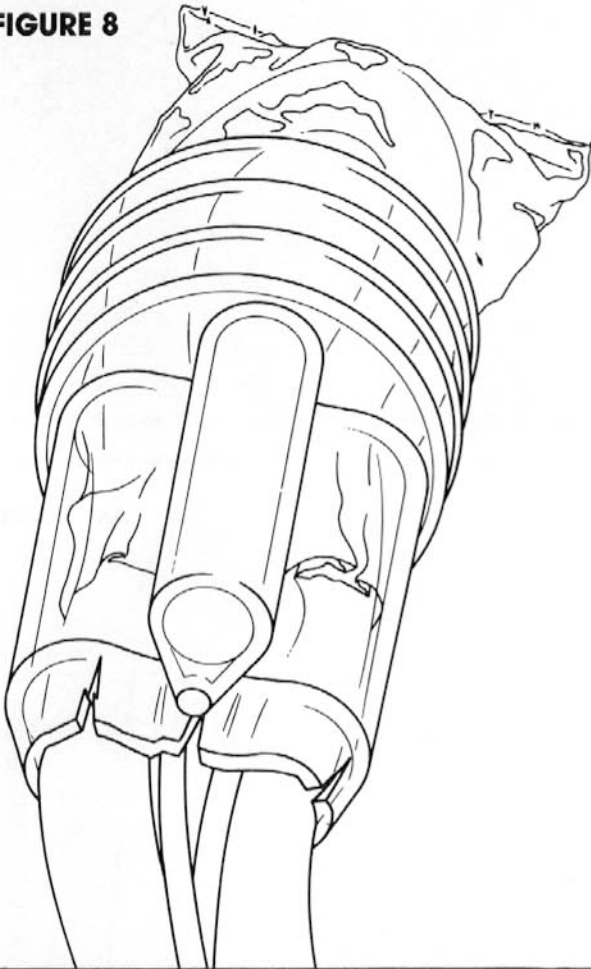

**FIGURE 7**
**1.08** Use the plastic small parts bag as a protective hood to cover all exposed pairs. (Fig. 7) Vinyl tape may be applied over the bag for ease of application.